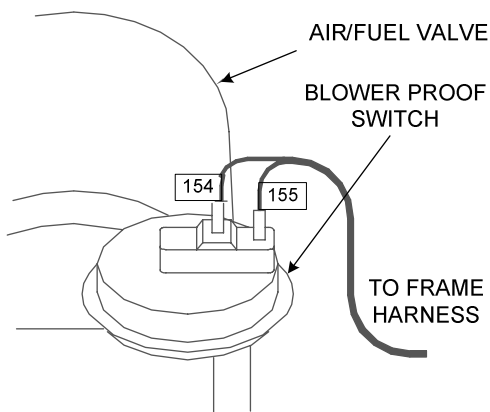

Figure 6.5
2. Once the unit has proved flame, remove either wire #154 or #155 from the blower proof switch (see Fig. 6.5) located on the air/fuel valve.